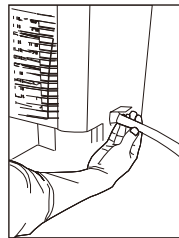

Fig.10a
- Insert the female threaded end of the water hose through the opening. (Fig.10a)